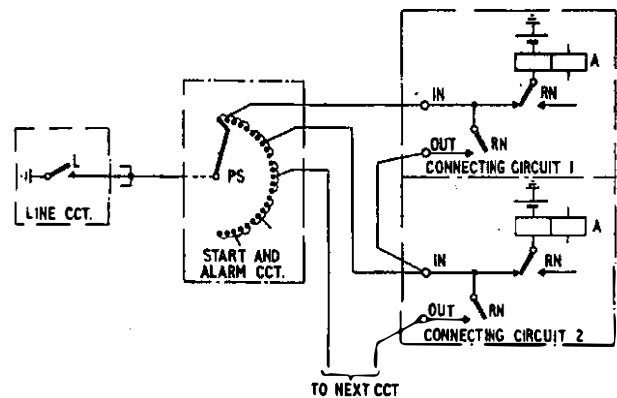
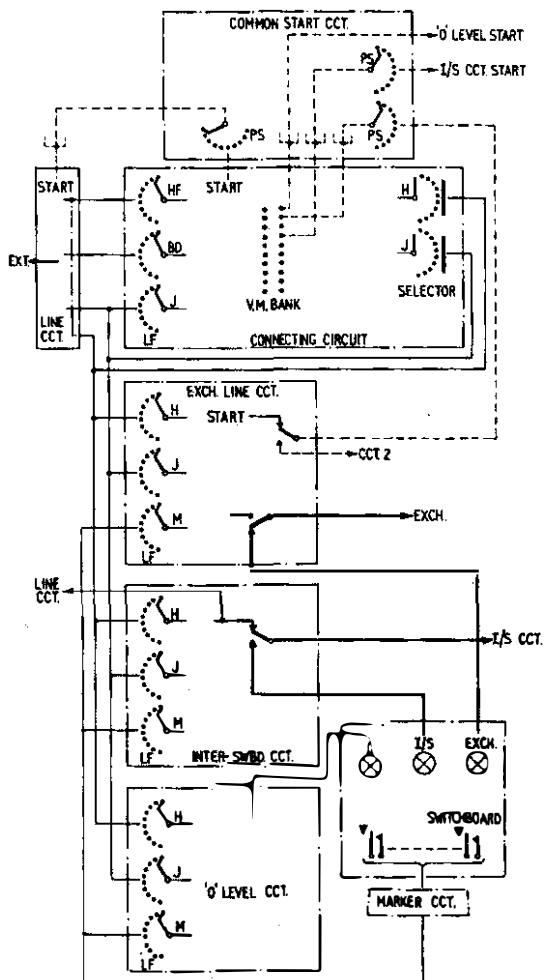

FIG. 5.—START CHAIN BETWEEN LINE AND CONNECTING CIRCUITS.
FIG. 6. ARRANGEMENT OF MARKING AND CONTROL CONNECTIONS BETWEEN CIRCUITS.
Fig. 5 shows the circuit element of the start connections between line circuits and connecting circuits; the common
start circuit connections are shown in outline in Fig. 6. Referring to Fig. 5, a connecting circuit is seized by the operation of its A relay and, when engaged, the operation of RN will cause the common start wire to be connected to the next circuit, and so on. Normally, therefore, the first free circuit will be seized, but the first choice is continually changed by the action of the pulse switch (PS). This switch is non-homing and is provided primarily for the distribution of pulses throughout the equipment. It steps at about 0.4 sec. intervals during the establishment of any connection. Spare arcs are, however, available and wiring the start commons through these, as shown, ensures rotation of the first-choice circuit, thus preventing a faulty circuit being repeatedly picked up during slack periods.
Fig. 6 shows the multiple connections between the line-finders and connecting circuit selectors, excluding the speaking connections. It is over wires HF, BD, H and J that marking and discrimination is done. For the ordinary extension-to-extension call the HF wire and H wire from the selector have functions similar to those of the private circuit in automatic exchange practice.